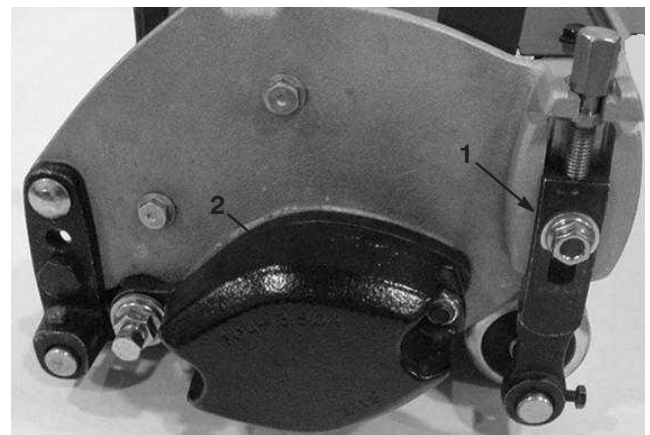

Figure 1
2. Loosen the screws securing each end of the front roller to the height-of-cut arms (Fig. 1).
3. Remove the carriage bolts, washers and locknuts securing the height-of-cut arms to the cutting unit side plates (Fig. 1). Remove the height-of-cut arms and roller assembly.
4. Remove the height-of-cut adjusting screws from the height-of-cut arms (Fig. 1).